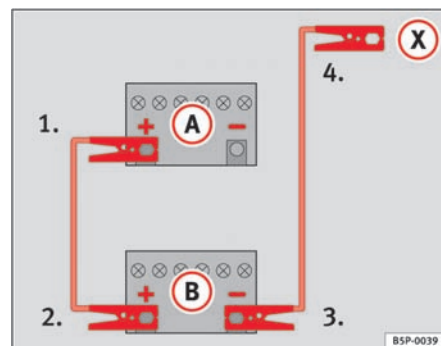

Fig. 173 How to connect the jump leads
In ⇒ fig. 173, the flat battery is **A** and the charged battery **B**.
- 1. Connect one end of the red jump lead to the positive ⇒ fig. 173 **+** terminal of the vehicle with the flat battery ⇒ ⚠.